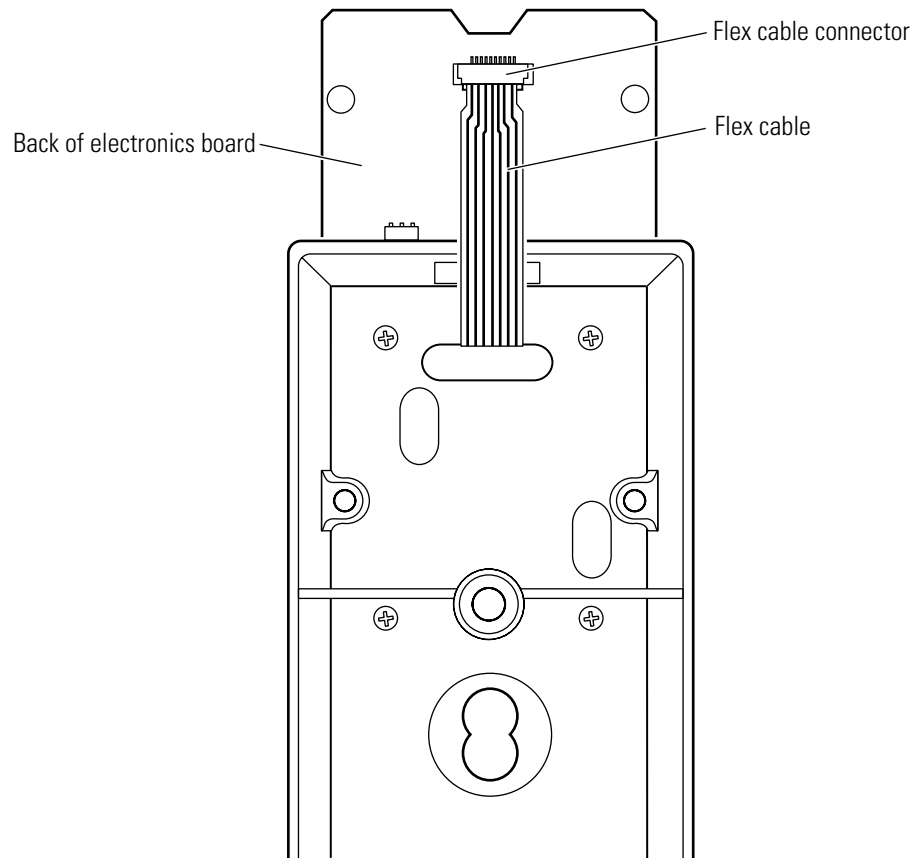

Figure 9.11 Disconnecting the flex cable from the smart card control electronics board
4. Slide open the flex cable connector and disconnect the flex cable. Set aside the electronics board. See Figure 9.11.